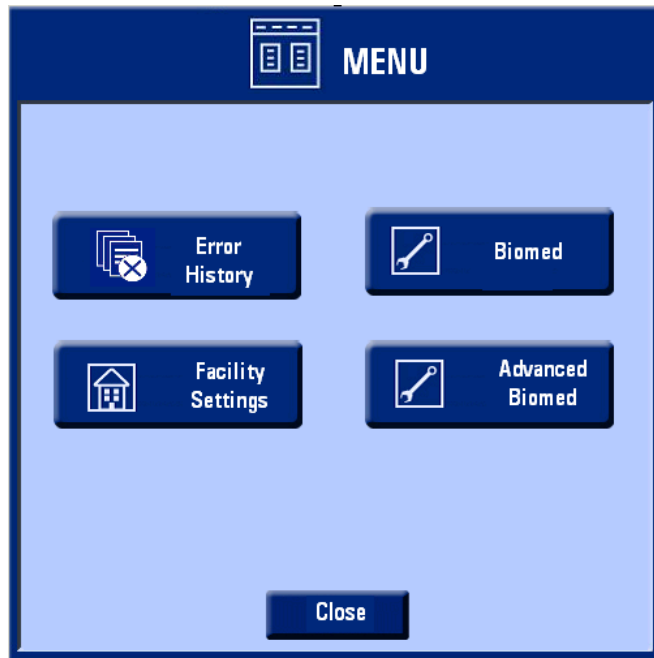

Figure 5-10 PRU Menu Screen
7. When you have finished changing all your selected Facility Settings, press **Close** from the Facility Settings screen. You will be returned to the Menu screen (refer to Figure 5-10 on page 5-12).